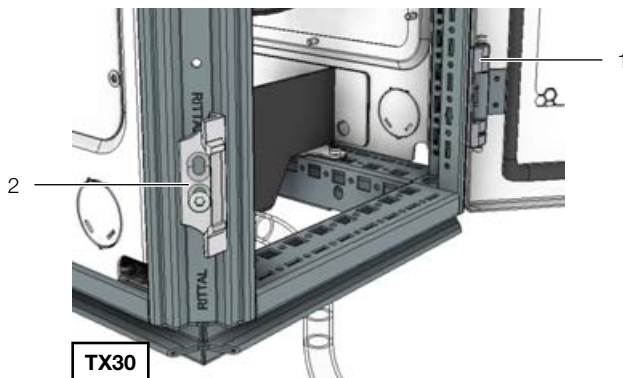

Fig. 27: Assembly components on the Liquid Cooling Package – rear view
- Dismantle the hinge pin holding fixtures (fig. 27, item 1) and corresponding fixing components (fig. 27, item 2) from the LCP Inline and reassemble at the rear of the adaptor in the same way.